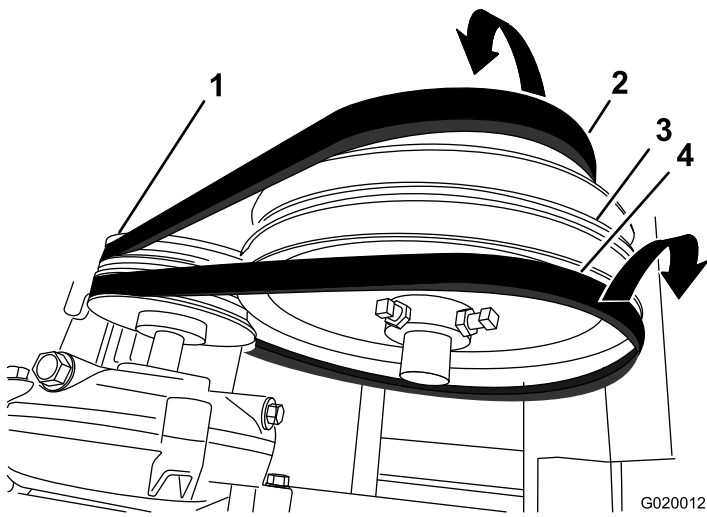

Figure 60
4. Slip the forward belt forward and off the idler pulley (Figure 60).
5. Slip the rear belt rearward and off the idler pulley (Figure 60).